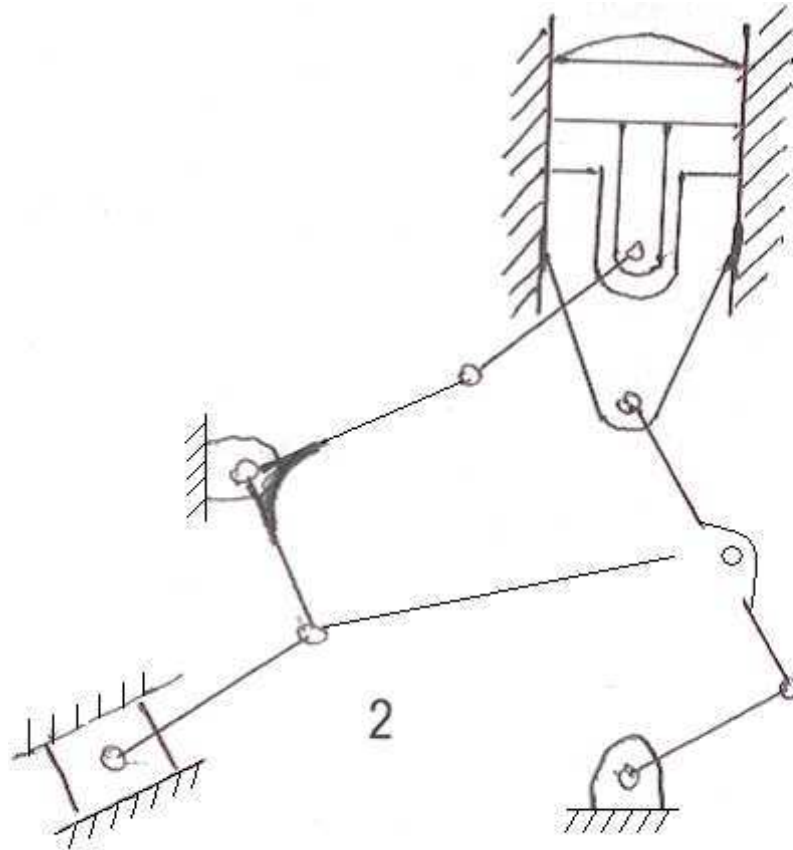

Figure 1c
- (c) Determine the degrees of freedom of the mechanism shown in figure 1c.